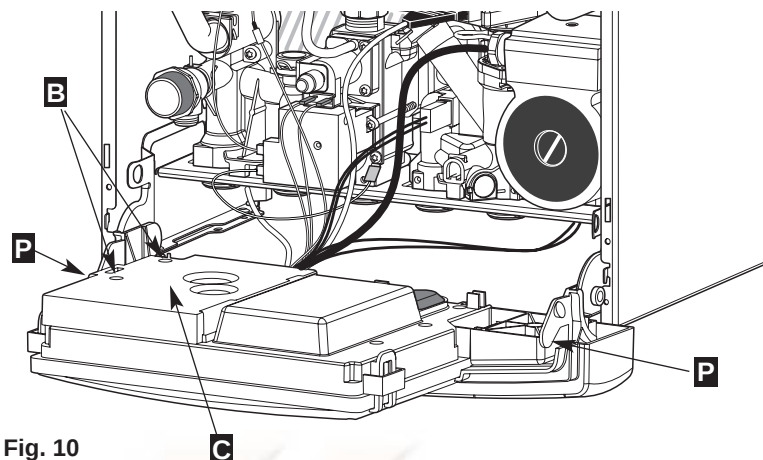
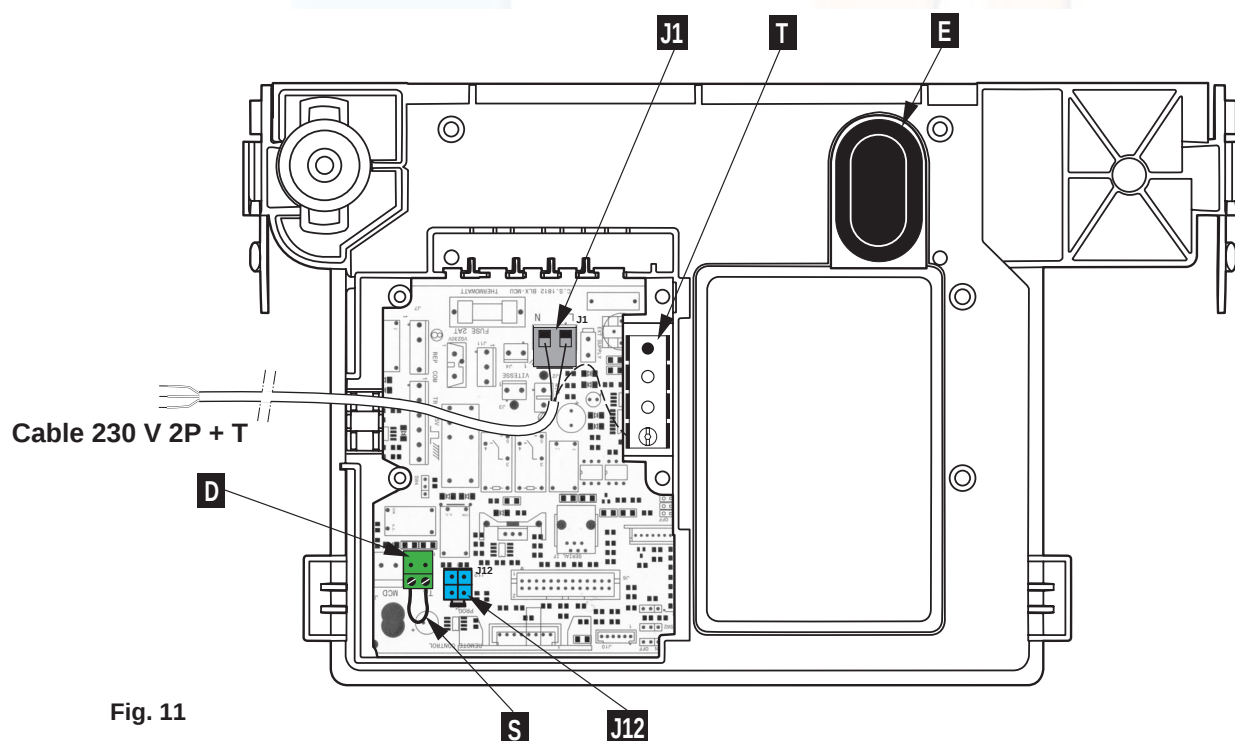

Fig. 10
Fig. 11
- remove screws B and remove cover C (fig. 10)
Connector J12 represented (fig. 11), is provided for connecting an optional programmer (see the relevant notice if necessary).
Switch the water heater power on, remove the casing and open the control unit by pressing the two push buttons **P** (fig. 10). The setting buttons are on the circuit board behind the blanking cover **E** (fig. 11)